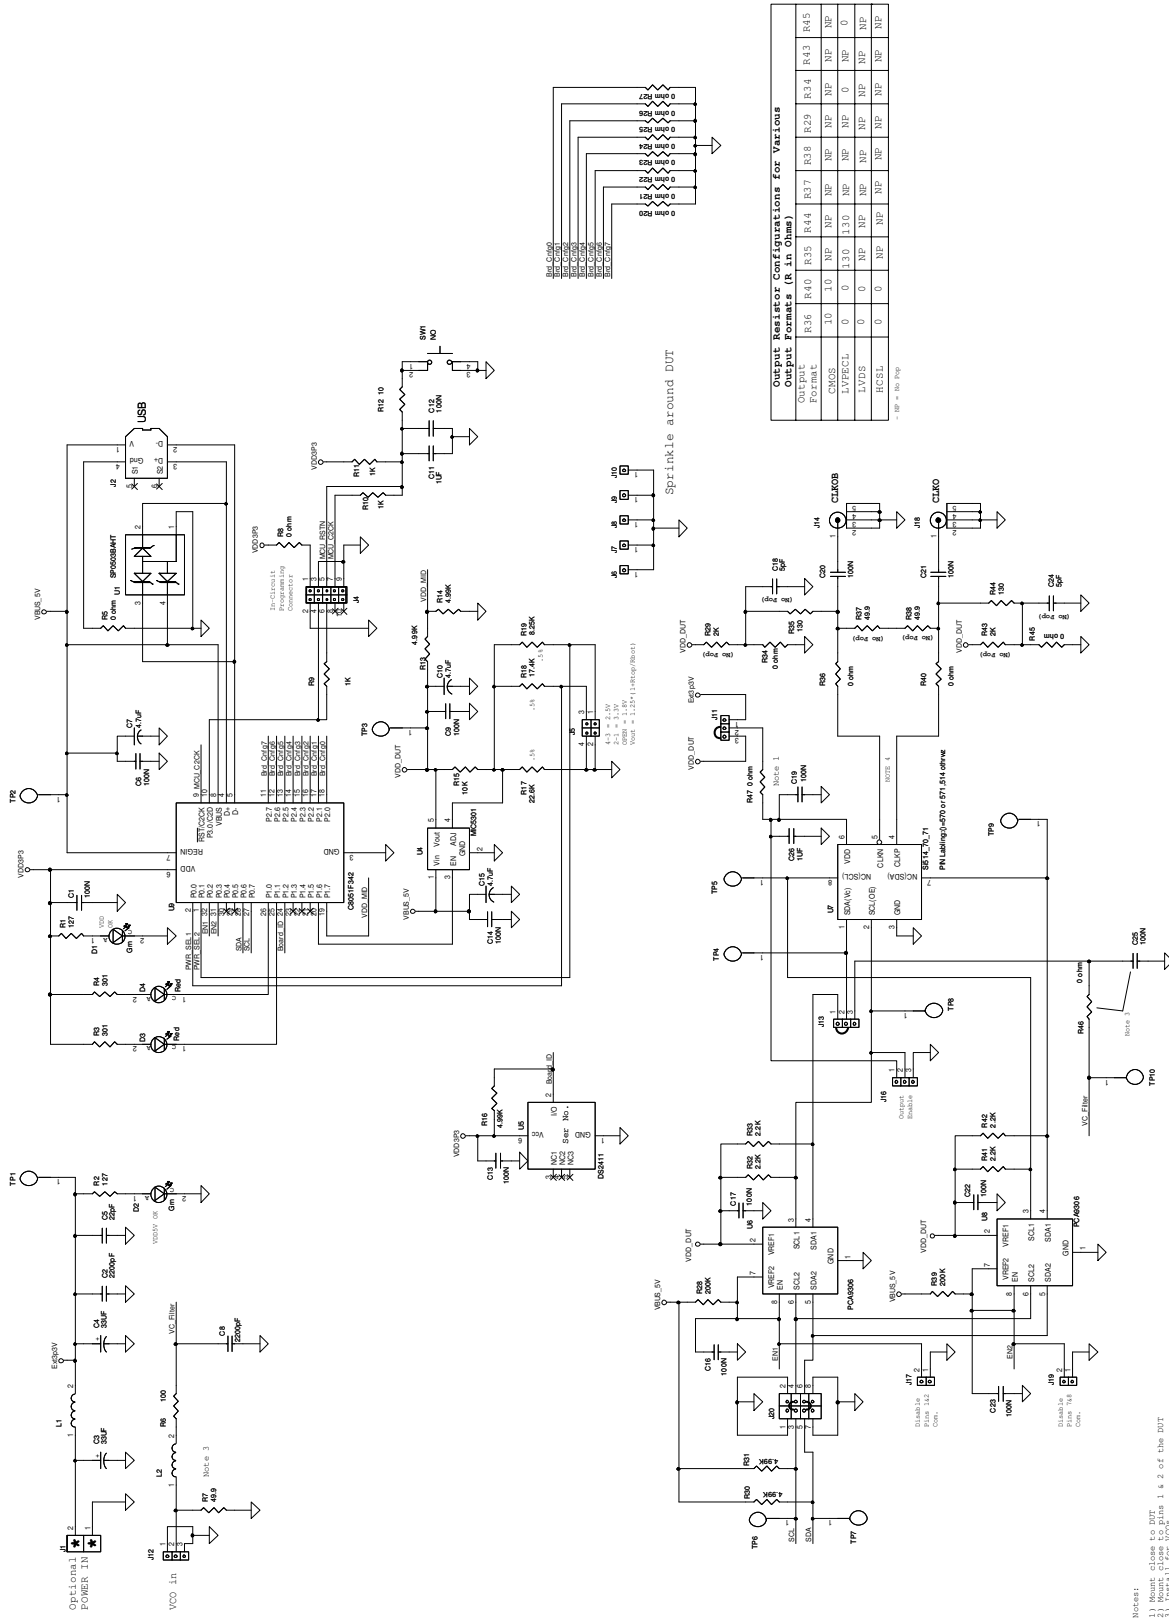

Figure 4. Si5xx-PROG-EVB (Universal I²C XOVCXO)
- Updated Figure 4 on page 10 (schematic).